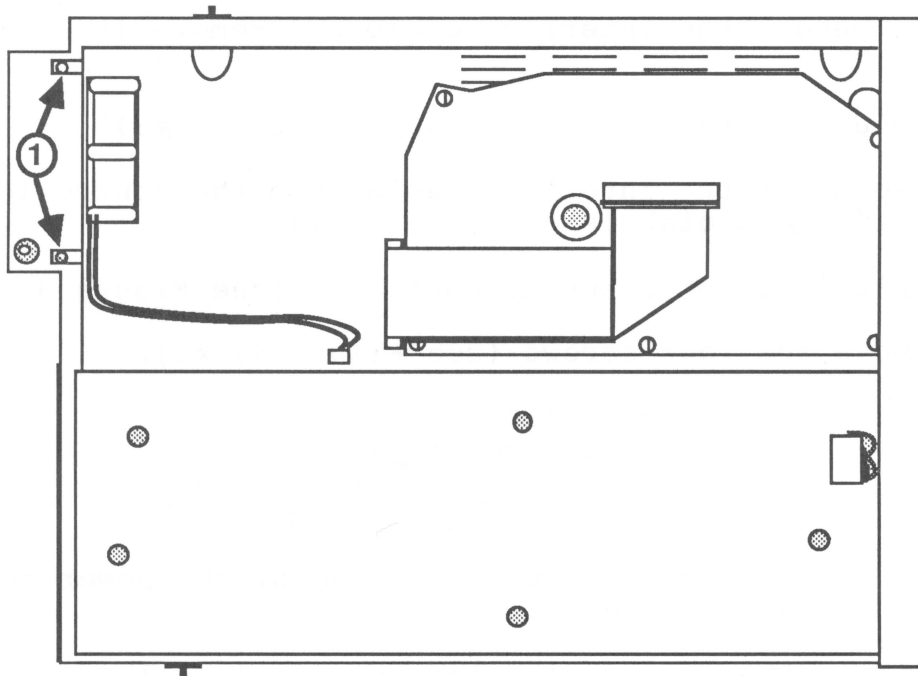

FIGURE 5
3. Remove the two screws (see Figure 5, #1).
2. Replace the two screws (see Figure 5, #1).